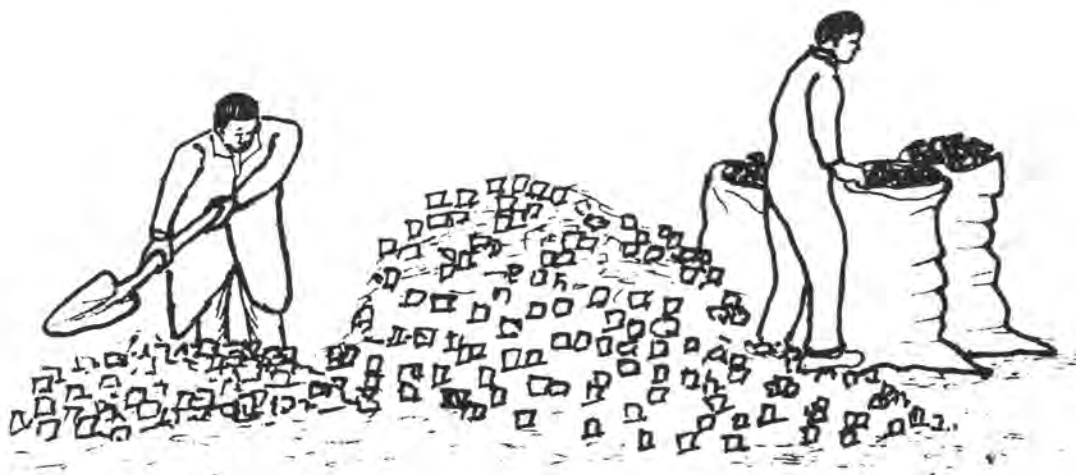

Figure 2.10: *The soil, grass and wire mesh covering the kiln are removed and the charcoal is put into gunny bags*
9. Remove the soil, grass and wire mesh covering the kiln (Figure 2.10). If some pieces of the discharged charcoal start to smoke and burn, they are covered with soil to put them off.